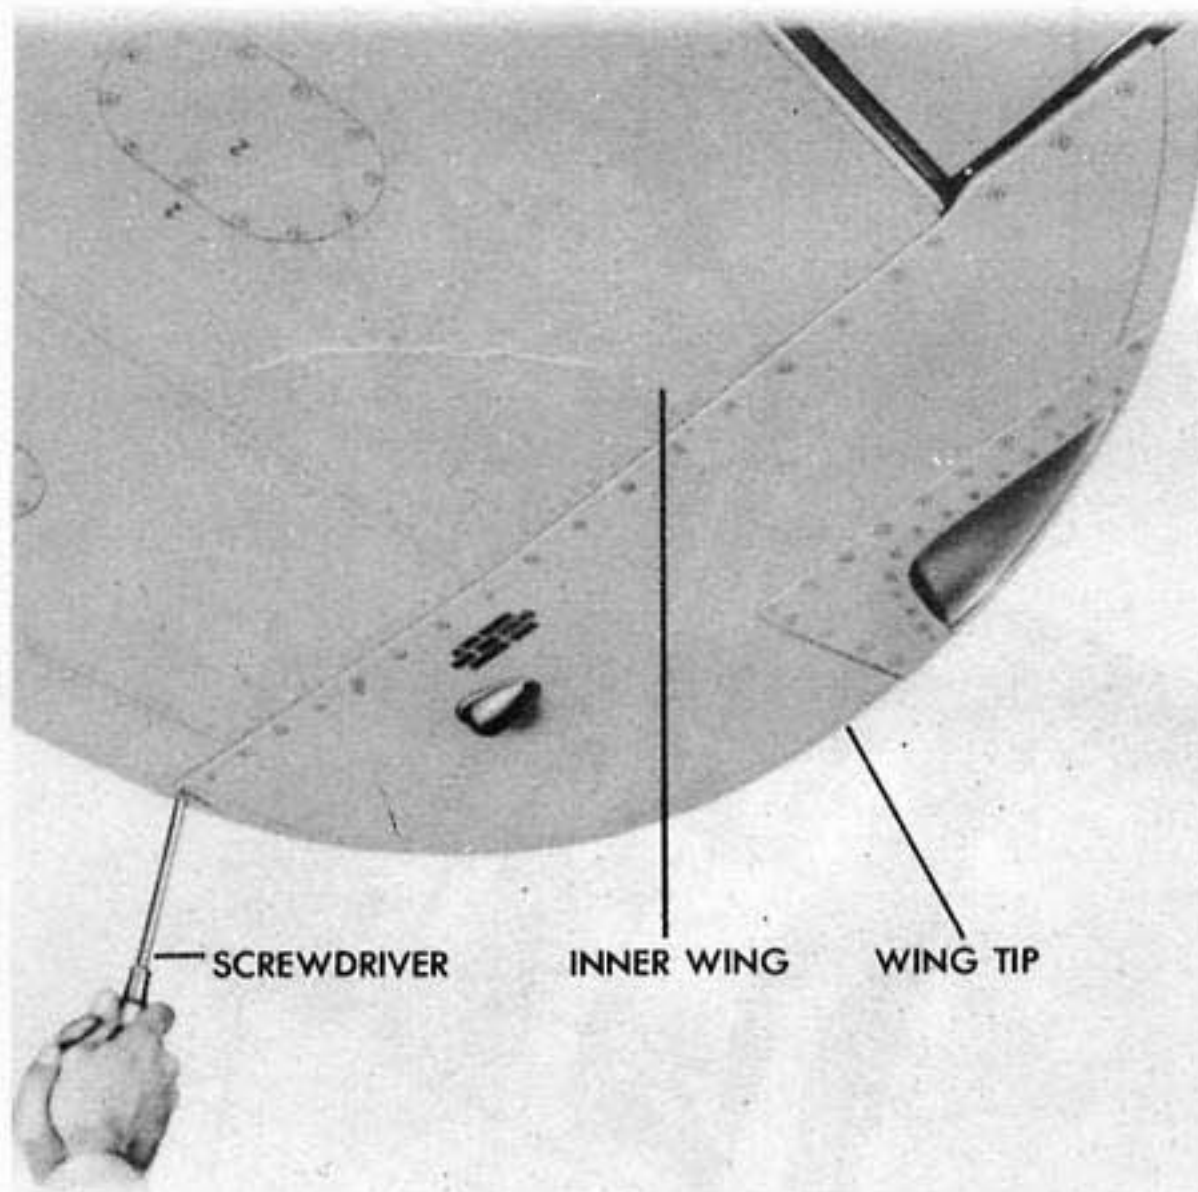

Figure 26 - REMOVING WING TIP
(1) REMOVAL OF WING TIP. (See figure 26.)